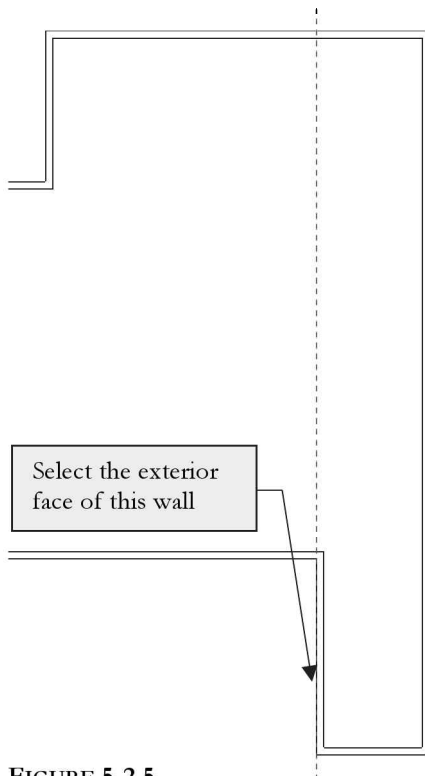

FIGURE 5-2.5
9. Set *Prefer* to **Wall Faces** on the *Options Bar*, and then select the exterior face of the vertical wall shown in Figure 5-2.5).